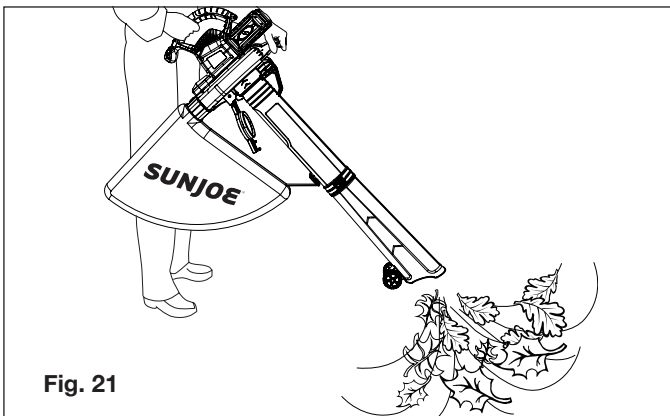

Fig. 21
- With a firm hold on the vac, tilt the mulcher tubes 2 in – 4 in. (5 cm – 10 cm) from the ground and use a sweeping action to collect light debris. The debris will flow into the bag. Items such as small leaves and twigs will be mulched as they pass through the fan housing. For longer bag life and increased performance, empty the bag frequently (Fig. 21).